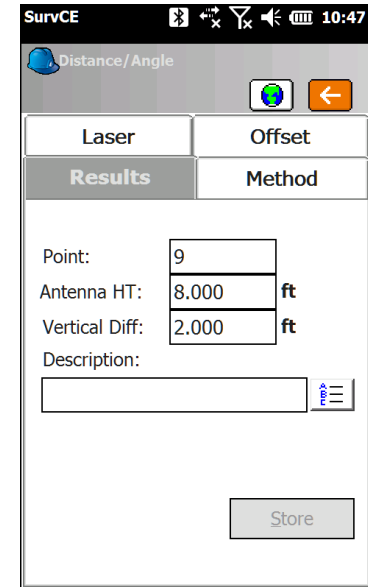

Figure 15
4. Make sure the Results tab displays the correct data and Store the point (Fig.15)